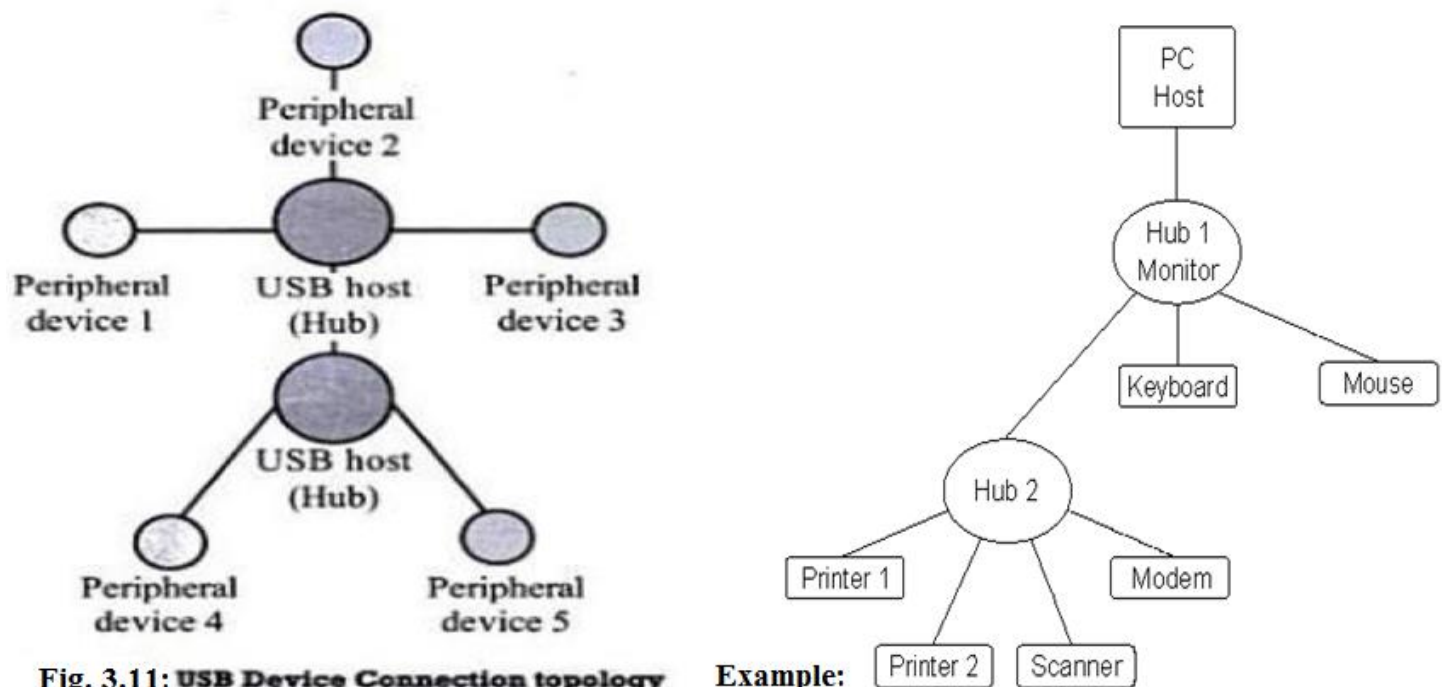

Fig. 3.11: USB Device Connection topology
- Figure 3.11 illustrates the star topology for USB device connection.